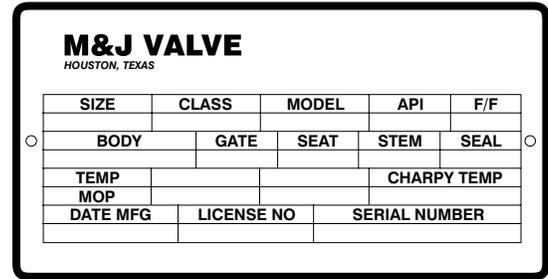

Figure 1
4. The nameplate (see Figure 1), located on the valve body, provides applicable information including size, pressure class, materials, seals, pressure/temperature ratings and serial number. In addition to being on the nameplate, the serial number is also stamped on the top body flange. Valves with extended centerline bore to top of operator mounting flange also have a nameplate at the top of the yoke. Please reference the serial number when contacting M&J Valve in regards to your valve. This will expedite any request and insure that correct information is given.